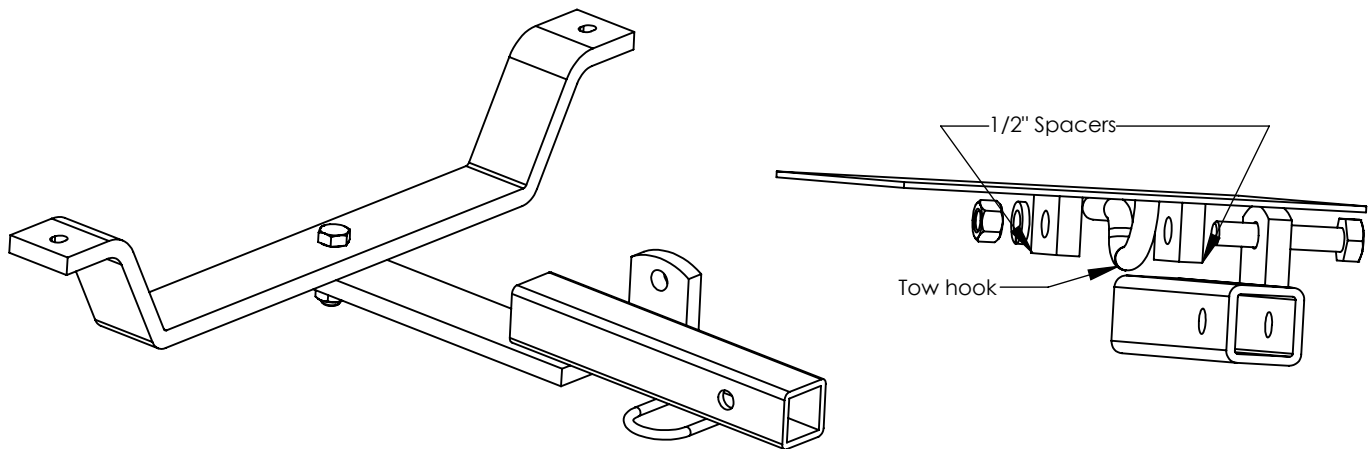

Figure 1-1
3. Loosely mount the tab welded to the hitch receiver tube to the passenger side of the tow hook located in the center of the vehicle on the bottom of the spare tire well. Place a 1/2" thick spacer provided between the hitch tab and the tow hook to center the hitch on the vehicle. Use the other 1/2" spacer as reinforcement on the opposite side of the tow hook (see Figure 1-1).